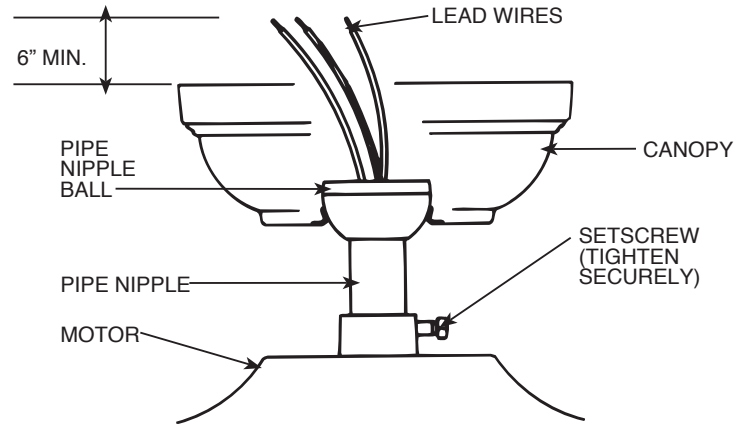

Figure 5B
**A.** Insert pipe nipple through canopy and feed wires from top of motor through pipe nipple. Screw pipe nipple into fan until tight (at least 4-1/2 turns). The setscrew locking the pipe nipple to motor must be tightened very securely. See Figure 5B. Failure to tighten screw could result in fan falling.